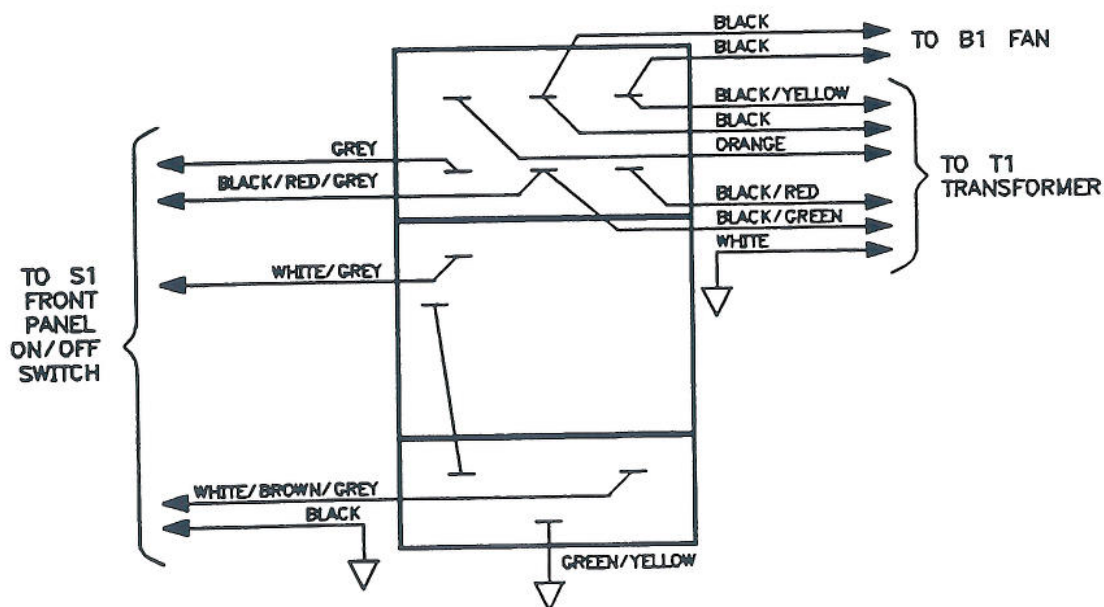

Figure 6-3 Wire Connections to Line Module FL1
9. When you replace the transformer, refer to Figure 6-3 for the location of the wires connected to the line module.